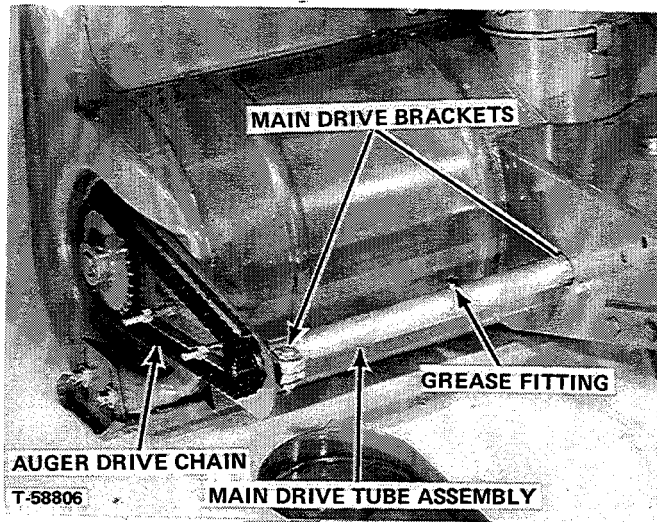

FIGURE 3
1. Lubricate the grease fitting on the main drive tube assembly, (Figure 3) with multi-purpose pressure gun grease.
4. Remove the two nuts that hold the chain shield to the left hand side of snow thrower. Remove the shield and coat drive chain with Allis-Chalmers Chain and Cable Lube. Replace the shield (Figure 3).
1. Remove chain shield on left hand side of snow thrower and inspect chain for wear and replace it if badly worn (Figure 3).